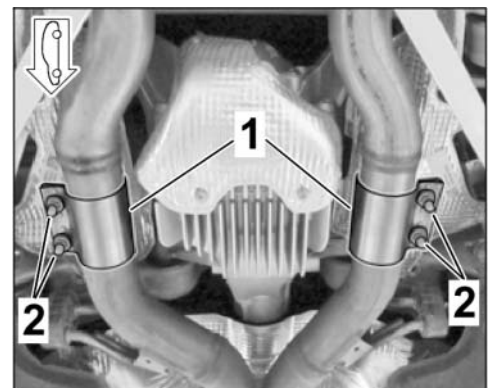

Figure 27
- 3.5.4 Align clamping sleeve (Ø 65 x 88, 2 x) on exhaust pipe on front silencer/rear silencer (at the left/right) so that the clamping sleeve is not touching/rubbing at any point (⇒ *Figure 27*).